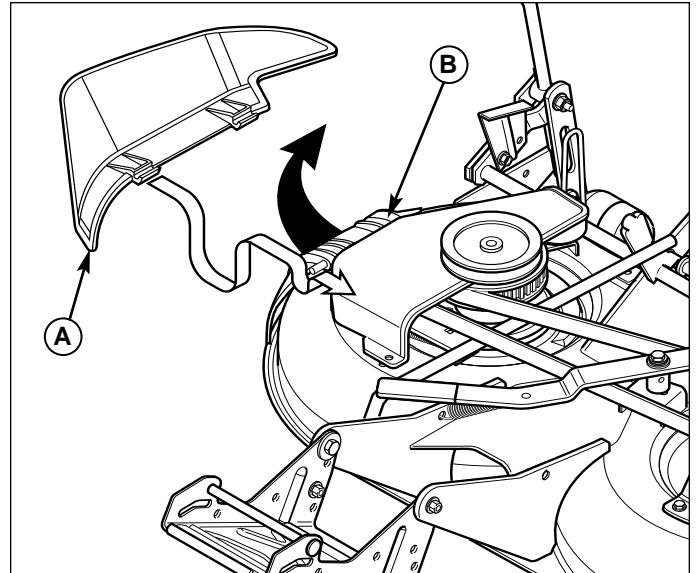

Figure 15. Installing the Side Discharge Deflector
1. Lift up the mulching cover (B, Figure 15).
2. Install the side discharge deflector (A) under the mulching cover. The side discharge deflector hooks onto the mulching cover hinge rod, and is held in place by the mulching cover.